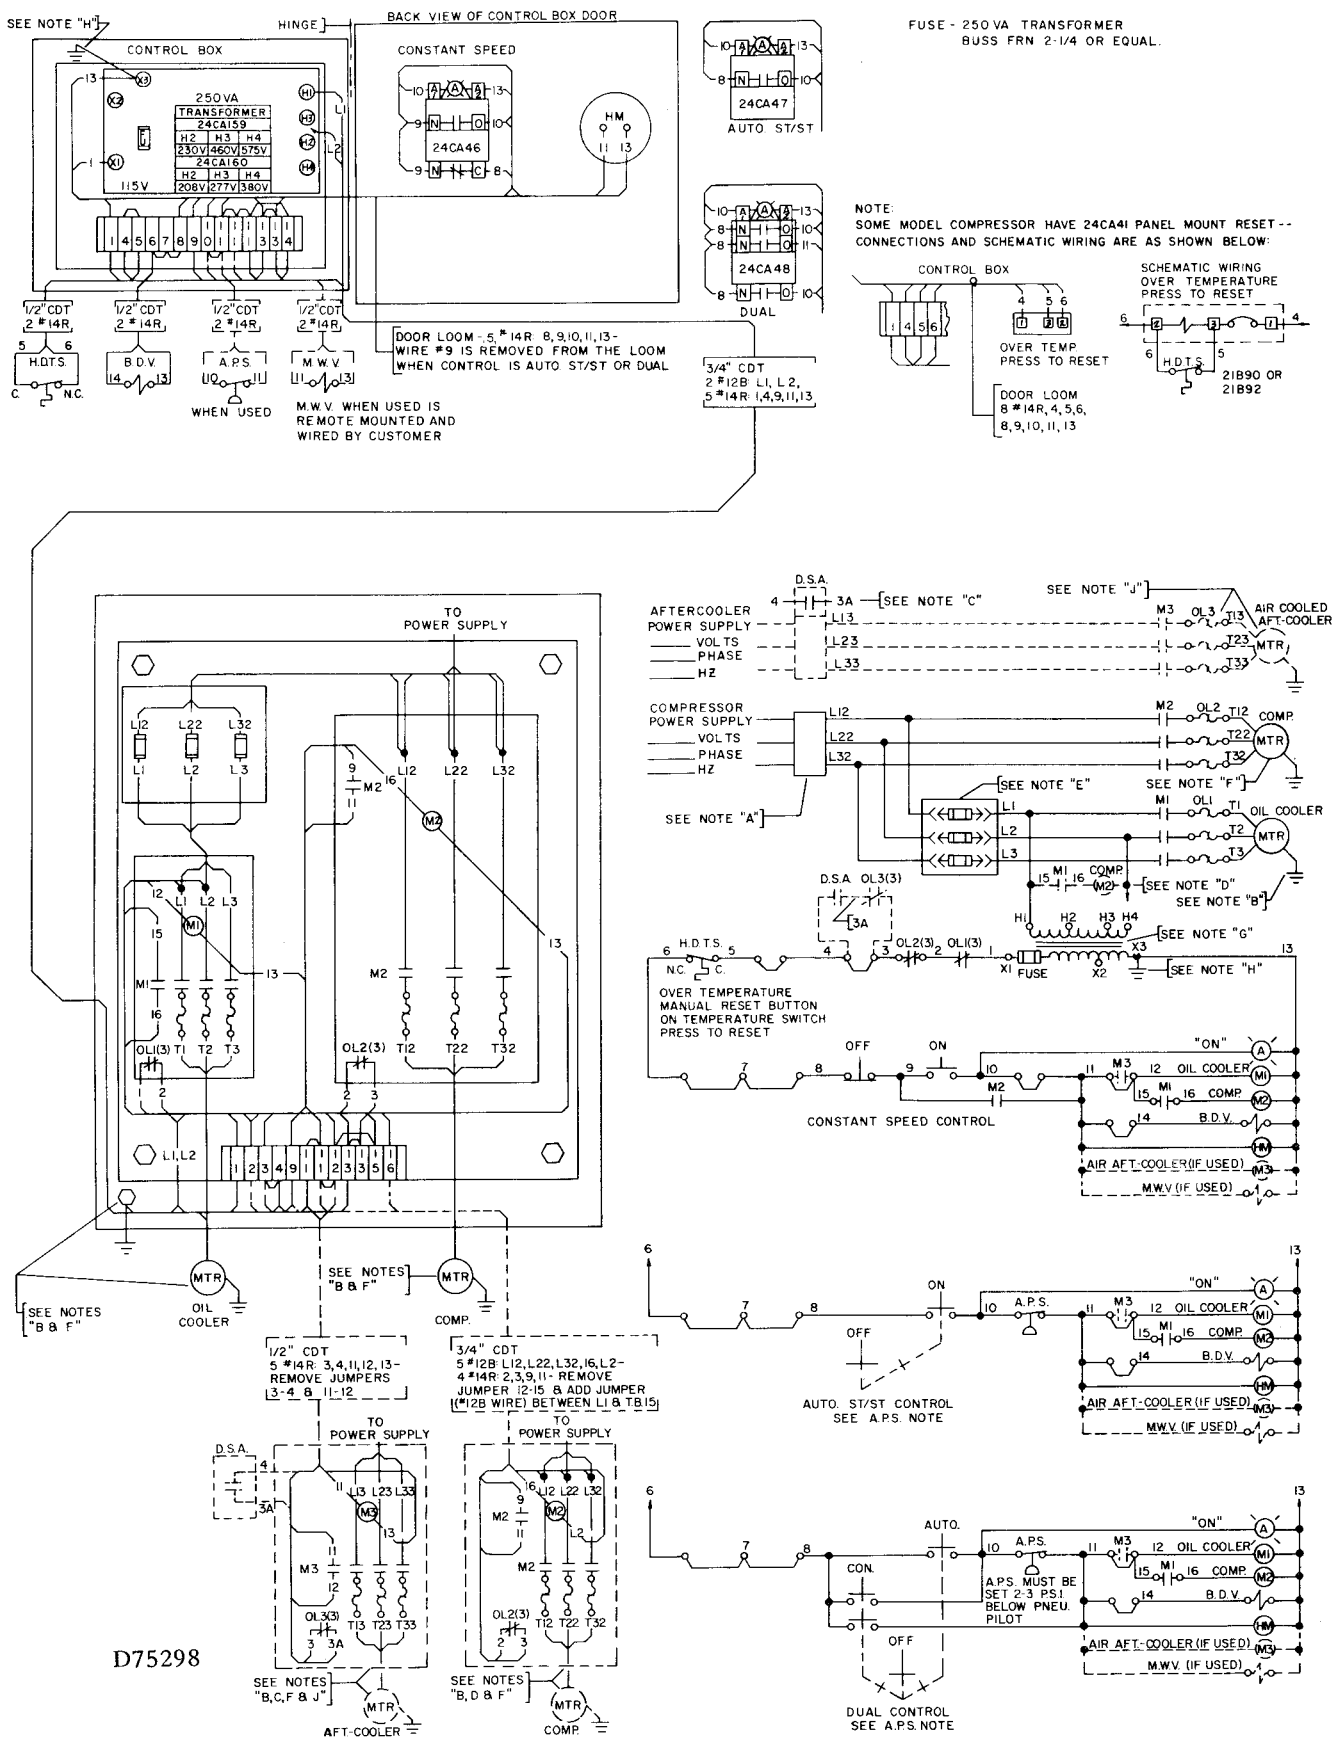
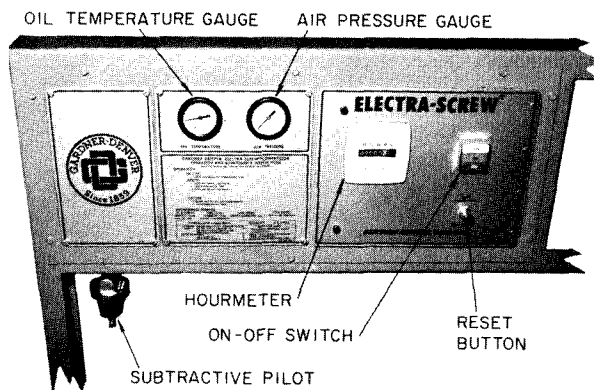

FIGURE 1-4. - WIRING DIAGRAM - AIR-COOLED UNITS - CONSTANT SPEED, AUTOMATIC START-STOP & DUAL CONTROL (For Notes See Section 4, Pages 6 & 7)
FIGURE 7-4. — INSTRUMENT PANEL
**Circuit Breaker** — Some early units have a separate push-to-reset type circuit breaker for the high discharge temperature shutdown switch located on the instrument panel (Figures 1-4, 2-4, 3-4, 4-4, 7-4, 8-4, 10-4 and 11-4). If a temperature failure occurs, the circuit breaker button will pop up indicating that the safety device has stopped the unit.
(FIGURES 1-4, 2-4, 3-4 & 4-4)
**INSTRUMENTS AND GAUGES** (Figures 7-4, 8-4, 10-4 & 11-4) — All four control system instrument panels incorporate the following:
**CONSTANT SPEED CONTROL SYSTEM** (Figures 1-4, 2-4, 6-4 & 7-4) — The Constant Speed Control System is used where requirements for air are high for long periods, causing the unit to remain loaded most of the time. The control is a stepless pneumatic system which regulates compressor inlet to match air demand made on the compressor. Effective from 0 to 100% of compressor capacity, the control opens the inlet valve as air is drawn from the service valve, maintains a constant valve opening as air demand levels off, or closes valve when the demand ceases. The subtractive pilot and inlet valve are shown in Figure 2-1. The ON-OFF switch and instrument panel are shown in Figure 7-4.